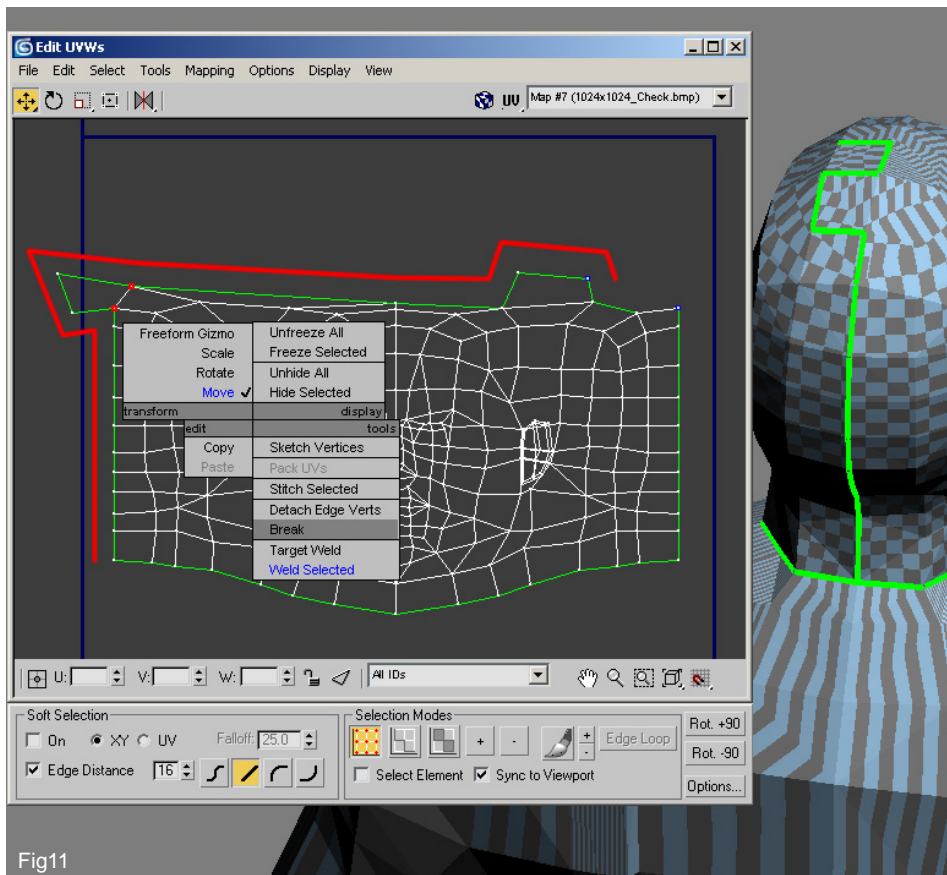

Fig11
11. As we mentioned earlier we shall now go on and fix the two stray poly's along the top edge. In Fig 11 we can see how the edge traced in red mirrors the seam line across the head model in the viewport. What we really want is a neat, straight line running from the neck to the top of the scalp. Select the two verts in red, right click and then click on Break as shown in the image.